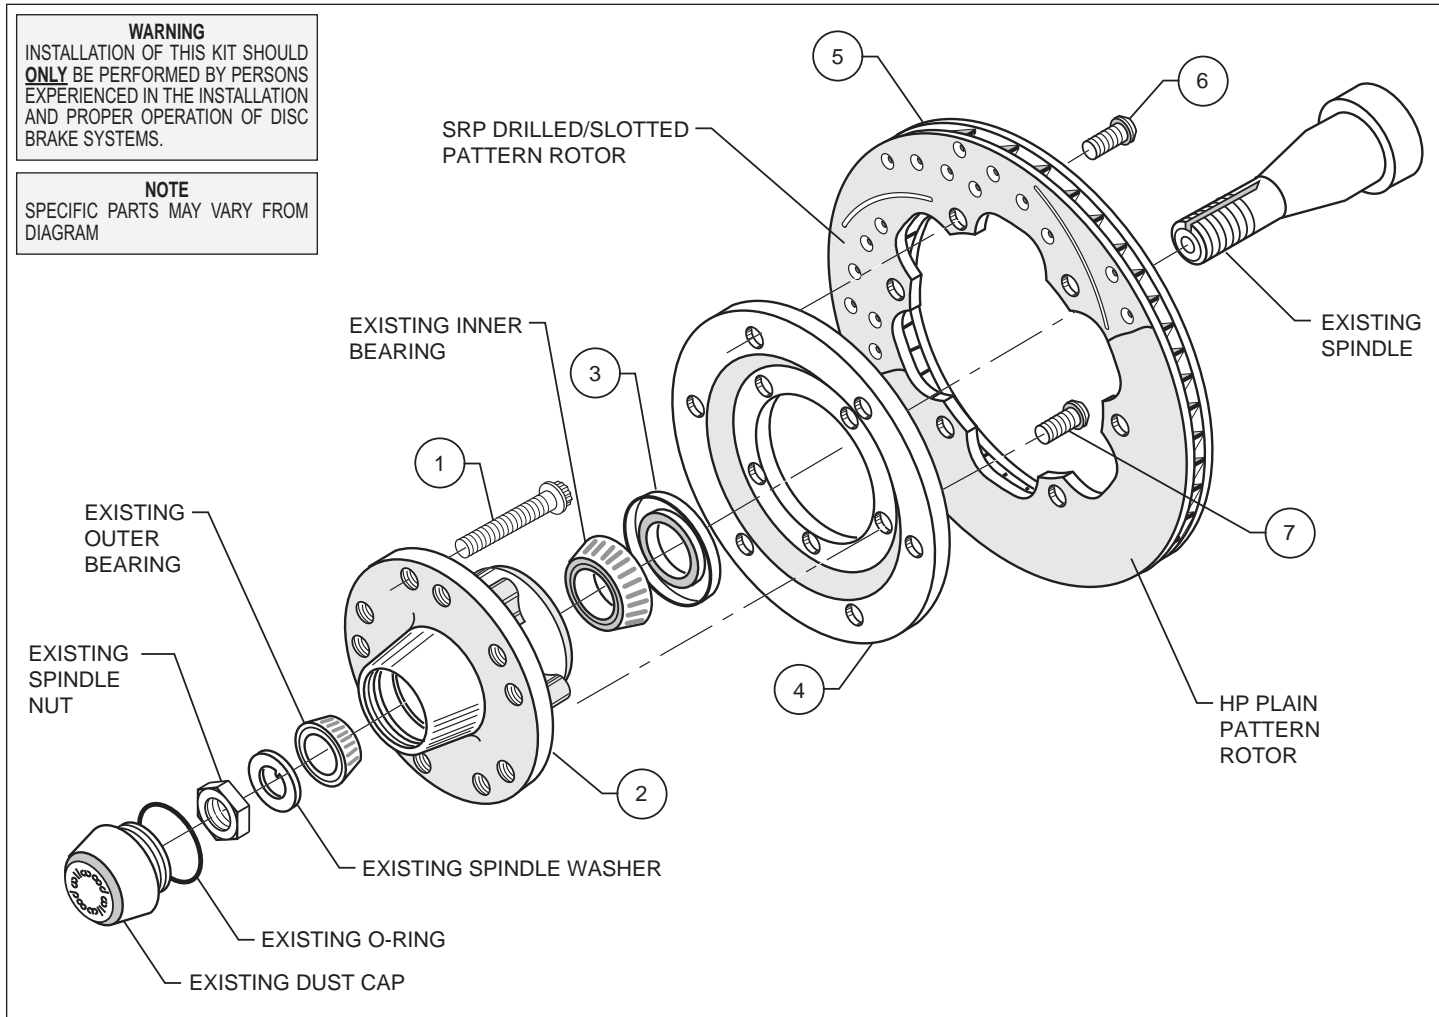

Figure 1. Typical Installation Configuration
- Install wheel studs (1) into the hub (2). Torque to 77 ft-lb. **NOTE:** *There are two five lug patterns in the hub (5 x 4.50 and 5 x 4.75).* Make sure of the correct hole pattern for the correct wheel application before installing studs into hub.
- Pack the large inner bearing cone (use existing) with high temperature disc brake bearing grease (available from your local auto parts store) and install into the backside of the hub (2).
- Install the grease seal (3) by pressing into the backside of the hub (2).
- Orient the rotor (5) and the rotor adapter (4) as shown in Figure 1. Attach the rotor to the adapter using bolts (6). Using an alternating sequence, apply red *Loctite*® 271 to the threads, and torque to 25 ft-lb.
- Mount the adapter/rotor assembly (4/5) to the hub (2) using bolts (7) (finger tight), as shown in Figure 1. Using an alternating sequence, remove bolts one at a time, apply red *Loctite*® 271 to the threads, and torque to 45 ft-lb.
- Pack the small outer bearing cone (use existing) with high temperature disc brake bearing grease and install into front of hub (2). Slide the hub/rotor assembly (2 and 5) with outer bearing cone onto the spindle. Secure using spindle washer (reuse existing), stock adjusting nut and nut locking device. Adjust bearings per Original Equipment Manufacturer (OEM) specifications.
- Install the existing dust cap onto the hub (2). Friction created by the o-ring (reuse existing) on the dust cap keeps it from unscrewing. The O.D. of the spindle washer may be larger than the I.D. of the dust cap not allowing it to seat against the hub face. Some grinding on the washer O.D. may be necessary to clear the I.D. of the dust cap.